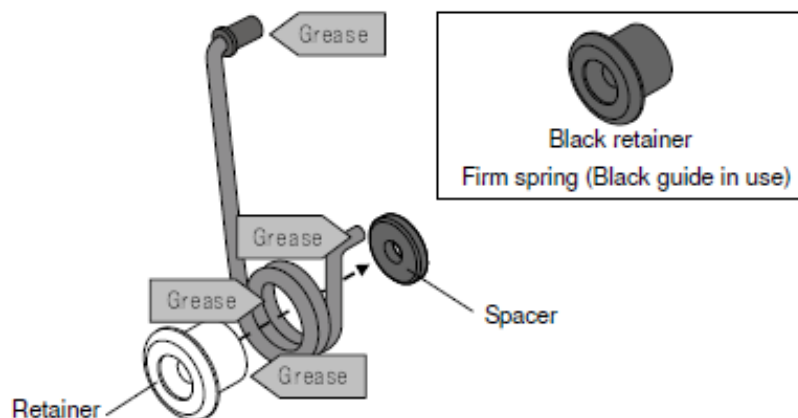

Fig. 4
- ③ Apply grease to the periphery of the retainer, both ends of the guide and the spring, and inside of the spring. Fig. 4.